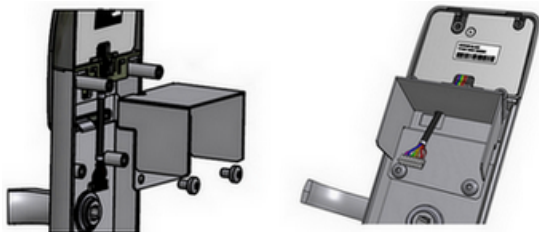

Figure 18
19. When upgrading an existing ASSA ABLOY Hospitality installation with LCU (*lock controller unit*) or RM/CM (*reader module/control module*), the upgrade plate must be installed. This is a precaution which is required due to already existing holes in the door. Use the old mounting screws from the LCU/RM to fasten the upgrade plate as shown in Figure 18. Additional fire protection material must also be placed in the location of the removed LCU/RM.